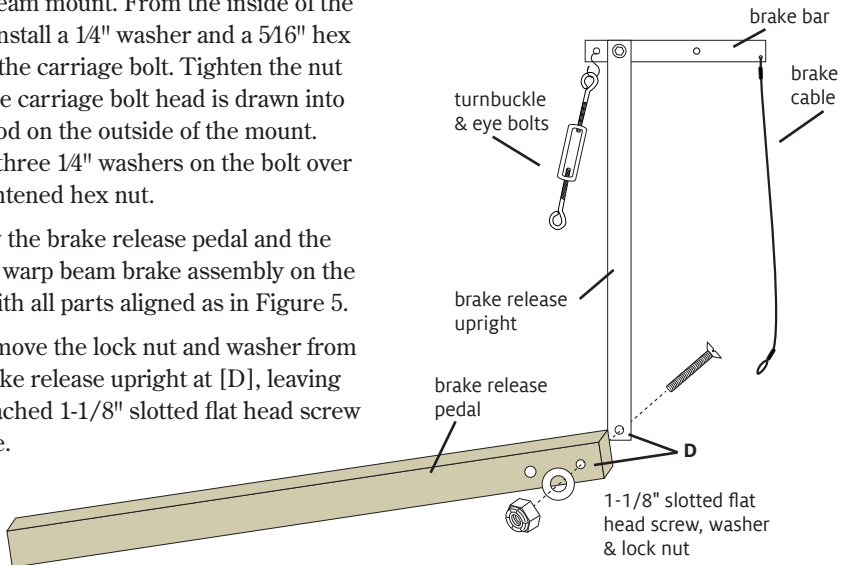

FIGURE 5: ASSEMBLE BRAKE RELEASE PEDAL AND DOUBLE WARP BEAM BRAKE ASSEMBLY
**11.** Lay the brake release pedal and the double warp beam brake assembly on the floor with all parts aligned as in Figure 5.